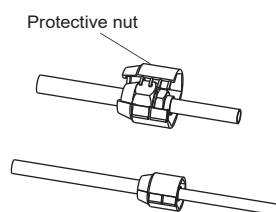

Fig.5-5
- The protective nut is a one-time part, it can not be reused. In case it is removed, it should be replaced with a new one. (See Fig.5-5)